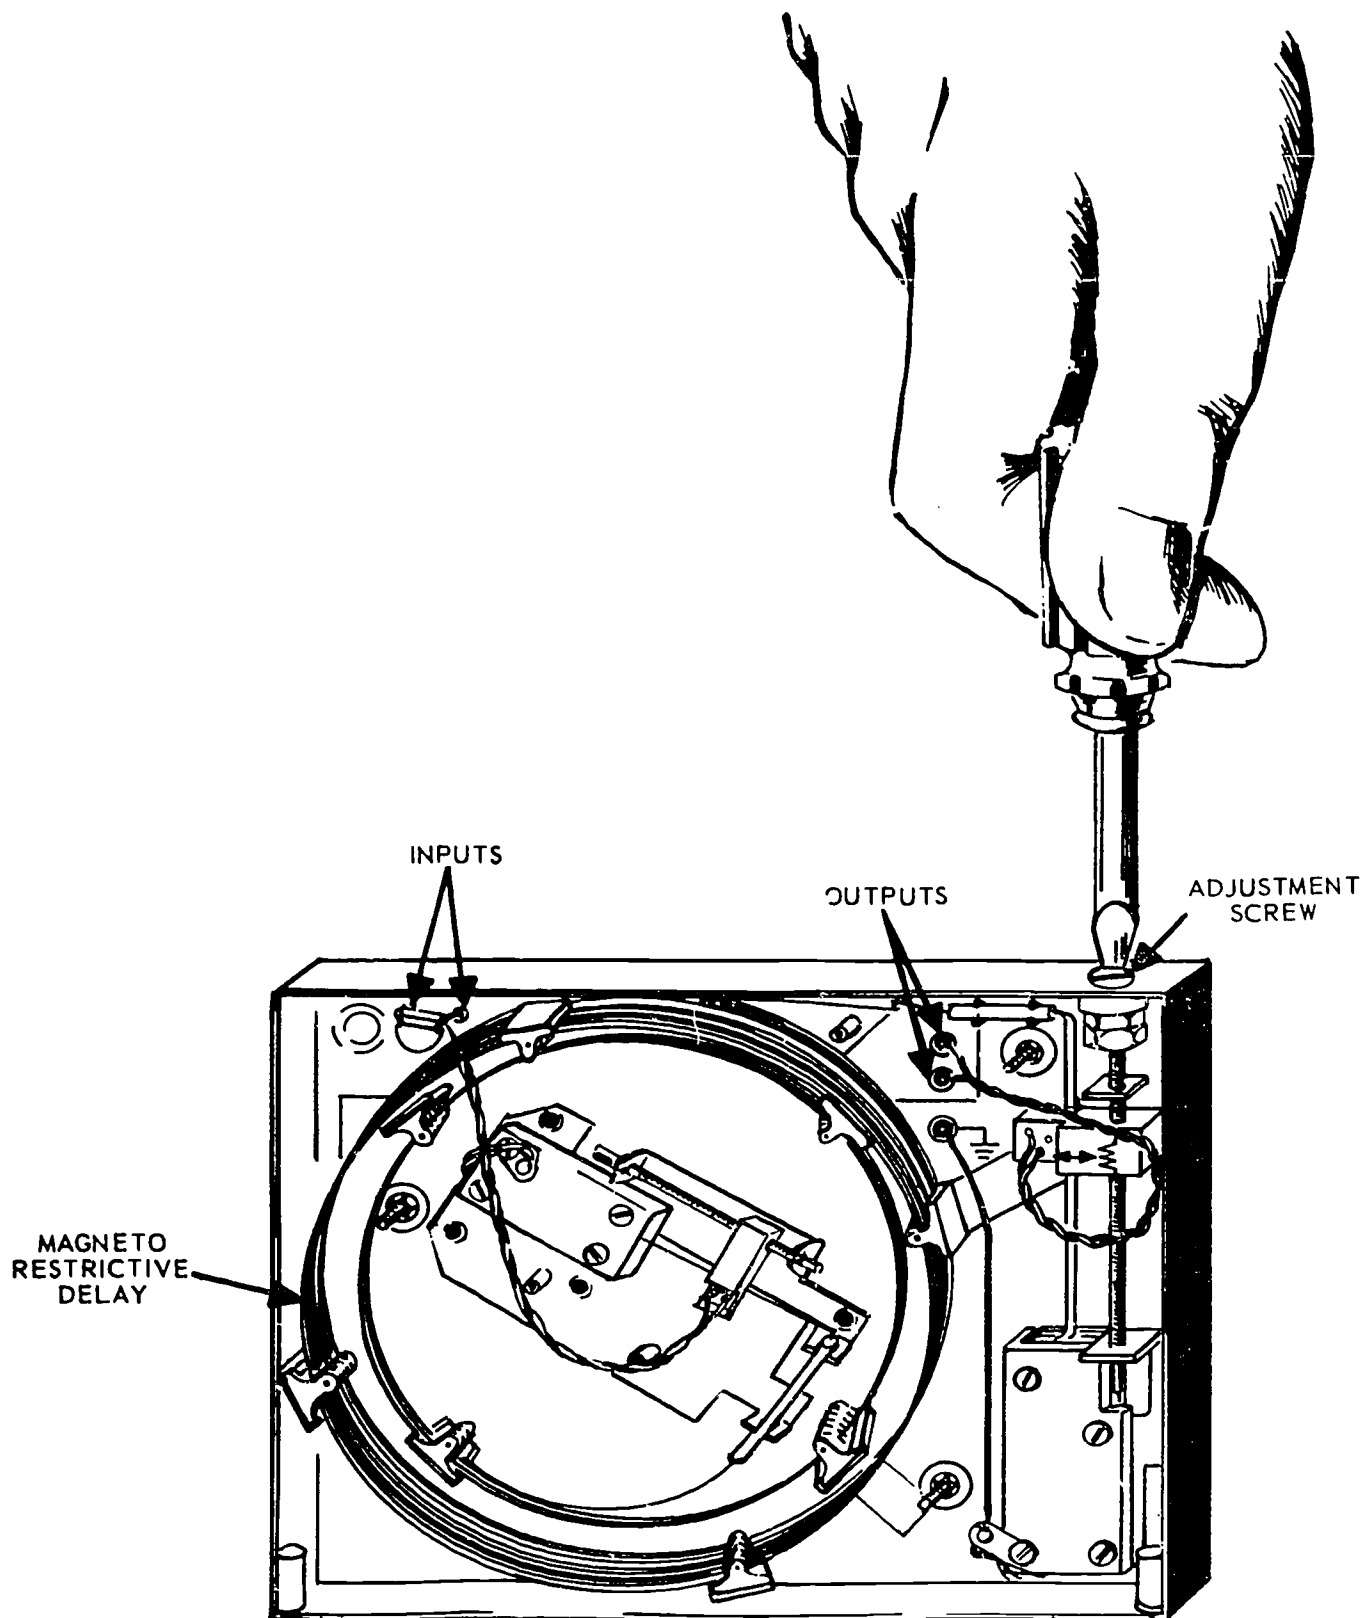

Figure 2-42. Magnetorestrictive delay line.
Delay line. The magnetorestrictive delay line storage system incorporates a mechanical adjustment device, tunable to a precise position. The principle of storage with this device is shown in figure 2-42. A silver wire is used as the storage element, with approximately the last 16 microseconds variable. Current in the form of a short duration pulse is entered into the wire at one end. It travels down the wire at the rate of approximately 1100 feet per second. Since its rate of travel is linear, the selection of a precise length then identifies two facts: (1) The time delay of the pulse is known by the length of the wire times the rate of travel; and (2) if the pulse (data bit) occupies a precise measurement of length along the wire, a specific number of data bits or words may be stored. Access to data at the output is sequential, and any selected data can be sampled if its entry time and the total length of the storage line are known. The adjustment of the last few microseconds becomes a critical factor, and precise timing is necessary. Two methods are used for making the adjustments. First, an oscilloscope using two traces may be used. On one trace the input pulse is shown; on the other trace the output pulse is shown. Since these